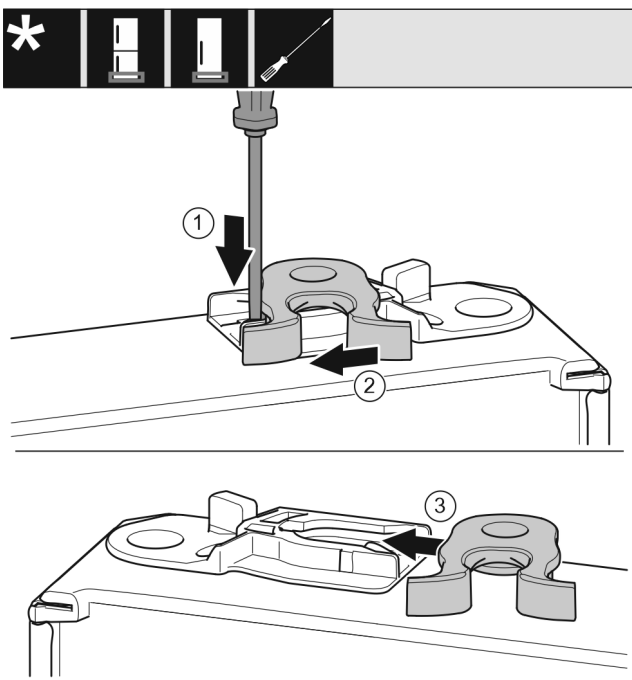

Fig. 21
- Push the lug downward with a slotted screwdriver. Fig. 21 (1)
- Pull the door latch out of the guide. Fig. 21 (2)
- Push the door latch into the guide on the other side. Fig. 21 (3)